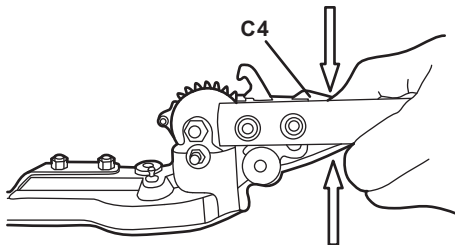

Fig. 20b
b). Depress the unlock levers (C4) with one hand and hold them in position. (See Fig. 20b)